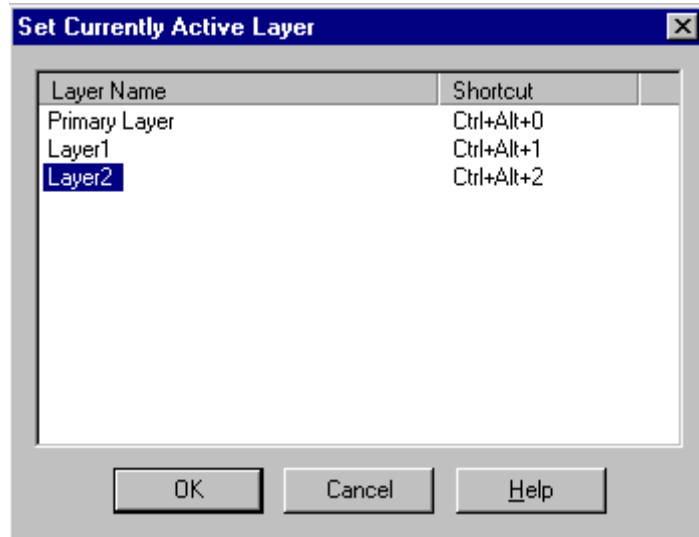

Figure 7-6: Set Currently Active Layer Dialog Box
1. On the Format menu, select Layers > Set Currently Active Layer. The Set Currently Active Layer dialog box appears (Figure 7-6).